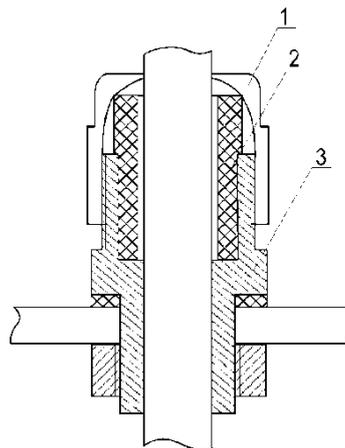

Figure 26 – Sealed cable entry of electronics module, VMPL3.857.001
- external cable insulation must extend into the module by 5–10 mm. Tighten the sealed entry using nut 1 and wrench (Figure 26).